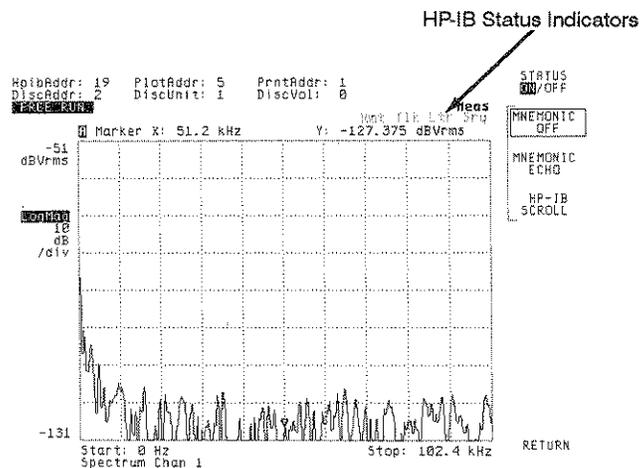

Figure 1-4. HP 35660A Screen with HP-IB Status Indicators
2. Press the STATUS ON/OFF softkey so that ON is highlighted. This will display the four HP-IB status indicators: Rmt, Tlk, Ltn, and Srq. (see Figure 1-4)